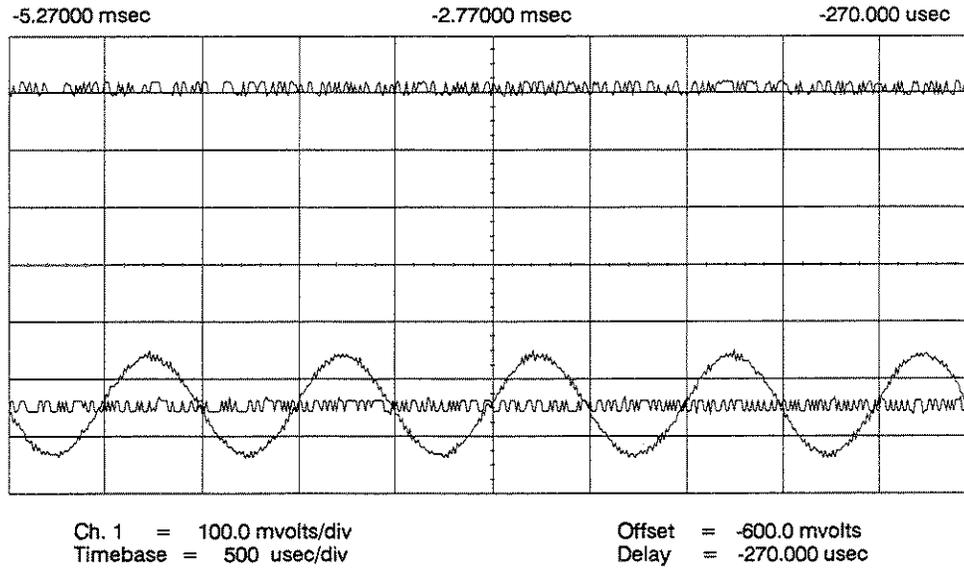
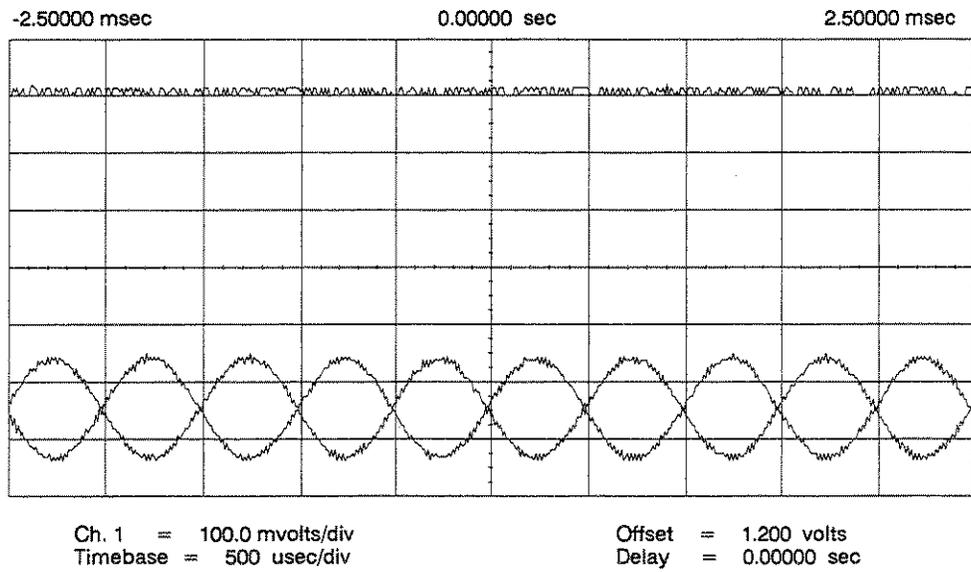
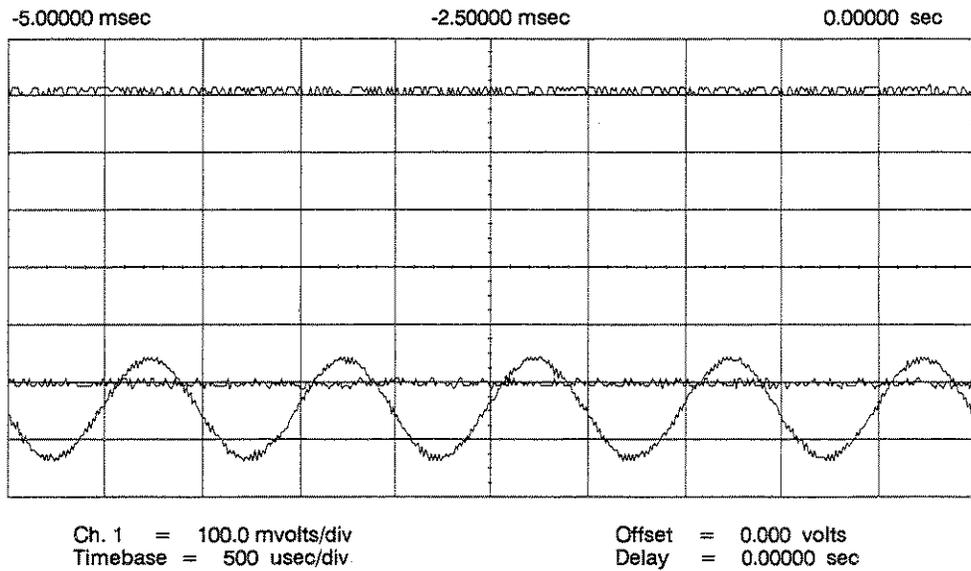

Figure 1-8. R431 and R405 Correctly Adjusted
Figure 1-9. R431 and R405 Incorrectly Adjusted
Figure 1-10. R405 Incorrectly Adjusted
14. The oscilloscope display should look like figure 1-8. The following describes the signals shown on the oscilloscope display:
If the oscilloscope display does not look like figure 1-8, do the following:
- a. If the oscilloscope display looks like figure 1-9, adjust A62 R431 for a flat “noisy” trace as shown in figure 1-10.
b. If the oscilloscope display looks like figure 1-10, adjust A62 R405 to position the flat trace at the center of the sine wave trace as shown in figure 1-8.